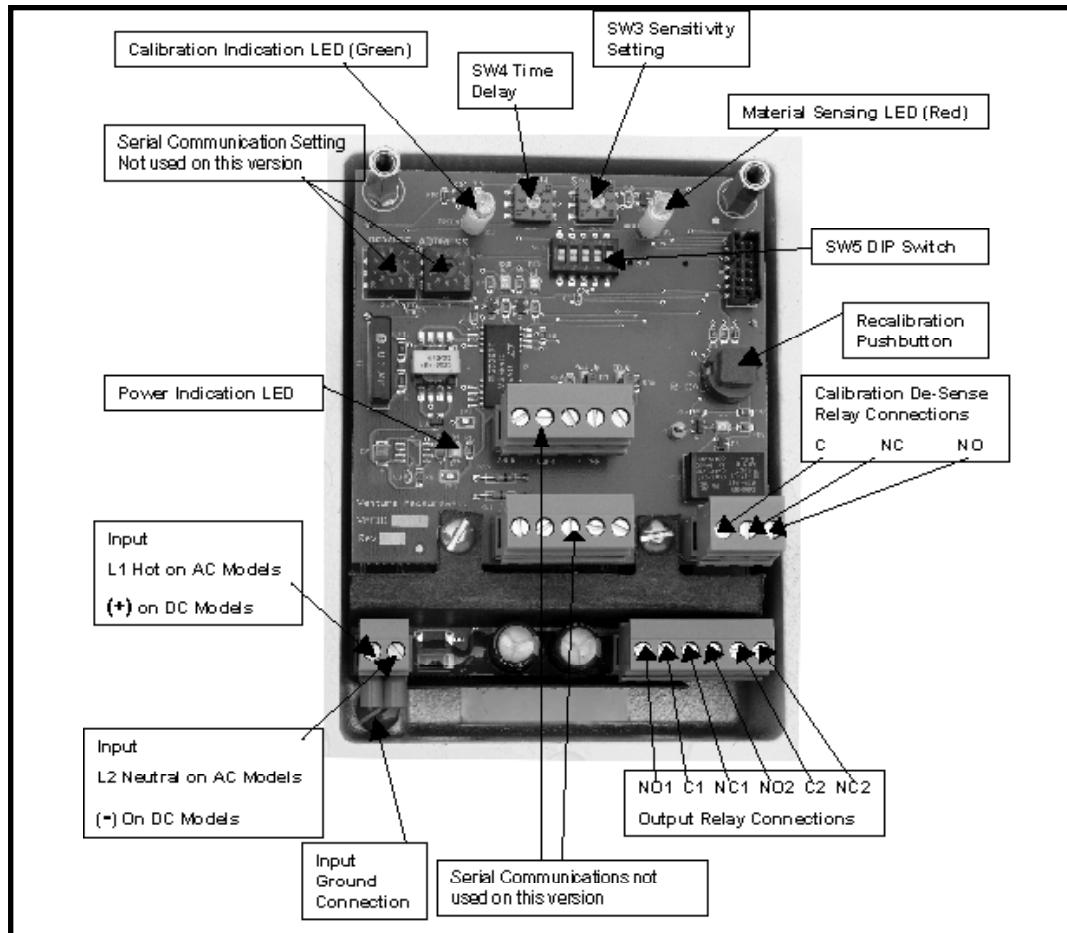
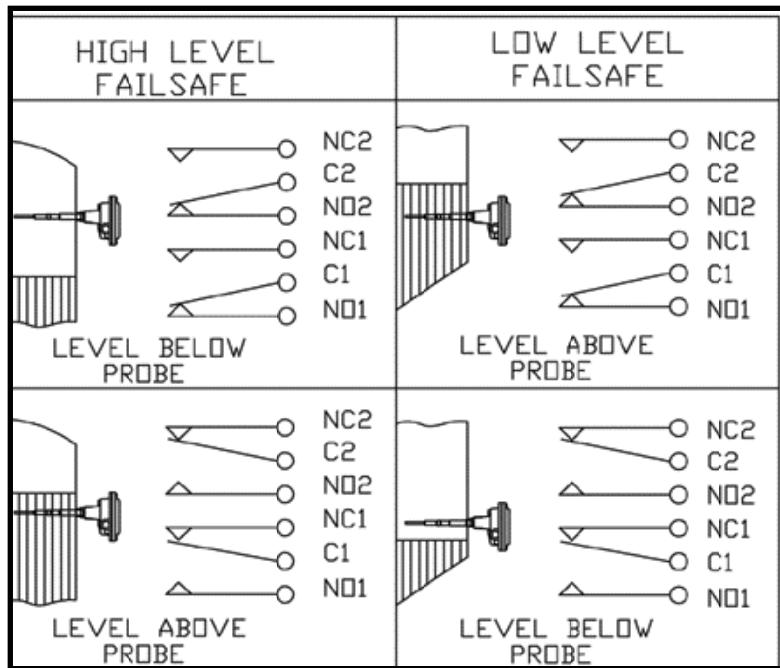

Figure 1. VRF-2000 Electronics
Figure 2. High/Low Level Failsafe
See Figures 1 and 2 in section 4.2 for location of input and output wiring.
See Figure 1 for location of input and output terminal blocks. Agency approved insulated barrel type terminals are supplied in the input terminal block to provide additional safety. These terminals must be used in order to maintain approval requirements. See Figure 2 for output contact positions during stages of operation.
IMPORTANT! An electrical earth ground connection must be made to the housing input ground screw. See Figure 1 for location. This connection is needed for both electrical safety and proper operation of the unit. This is required for both AC and DC units.
The VRF™ is shipped from the manufacturer in the high level failsafe condition. This setting is made on DIP switch SW1, position 5. See Figure 1 in section 4.2.
The VRF™ is shipped from the manufacturer in the 2pF setting. This setting is made on rotary switch SW3. See Figure 1 in section 4.2.
The VRF™ is shipped from the manufacturer in the minimum time delay setting. This setting is made on DIP switch SW5 positions 2 and 3 to set the mode of delay, and on rotary switch SW4 to set the amount of delay. This setting will delay the time between when the VRF™ unit senses material and the output relay changes state. The delay is only in this direction, regardless of failsafe setting. There will be no delay when the material leaves the probe. See Figure 1 in section 4.2.
The VRF-2000 features EZ-CAL® II. This feature consists of three parts. First, is an automatic calibration when the unit is first powered up. This should be done when no material is present at the probe. Second, is an automatic recalibration if the VRFTM electronics senses that the capacitance of the probe circuit has decreased significantly from what it was when it was last calibrated. Third, is the ability to manually recalibrate by momentarily pushing the recalibration pushbutton. See Figure 1 in section 4.2. The VRF-2000 is shipped from the manufacturer with the automatic calibration/recalibration feature enabled. If only manual pushbutton calibration/recalibration is desired, set SW5 DIP switch position 4 to off.
If the unit is powered on the bench prior to installation, or moved from one installation to another, recalibration is required. Momentarily press the recalibration pushbutton. See Figure 1 in section 4.2 for location. The green calibration indication LED will go off, and after 3 seconds illuminate to indicate calibration is complete.
- Check for proper input voltage. If correct, the "Power Indication LED" should be illuminated. See Figure 1 in section 4.2 for location.